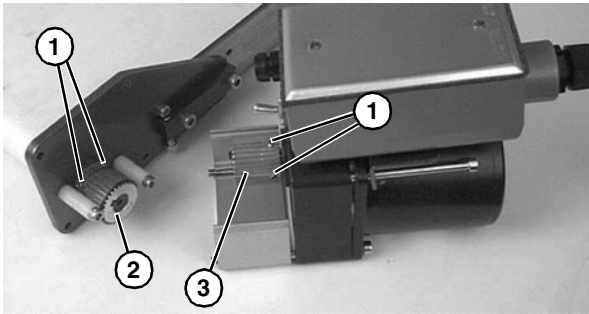

Figure 56
- Loosen set screws (**Figure 56, item 1**) and remove driven pulley (**Figure 56, item 2**) or drive pulley (**Figure 56, item 3**).